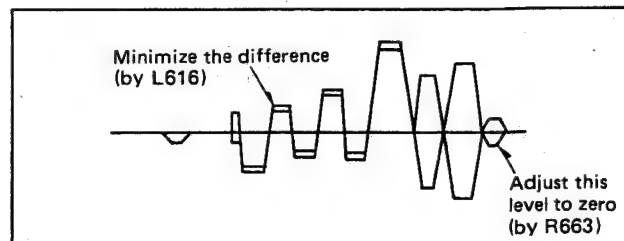

Fig. 14
5. Adjust L616 (Delay Matching Trans.) and R663 (Delay Line Adj.) to achieve waveform shown in Fig. 14.